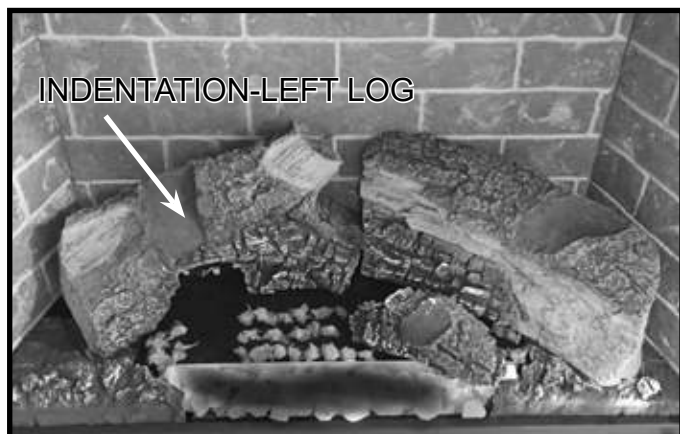

Figure 7 Location of Left Log indentation
5. Remove top left log from packaging. Place the log into the indentation on the rear left log. The right tip of the log will rest on the ember tray and the Teco-Sil rock. See Figure 7 and Figure 9.